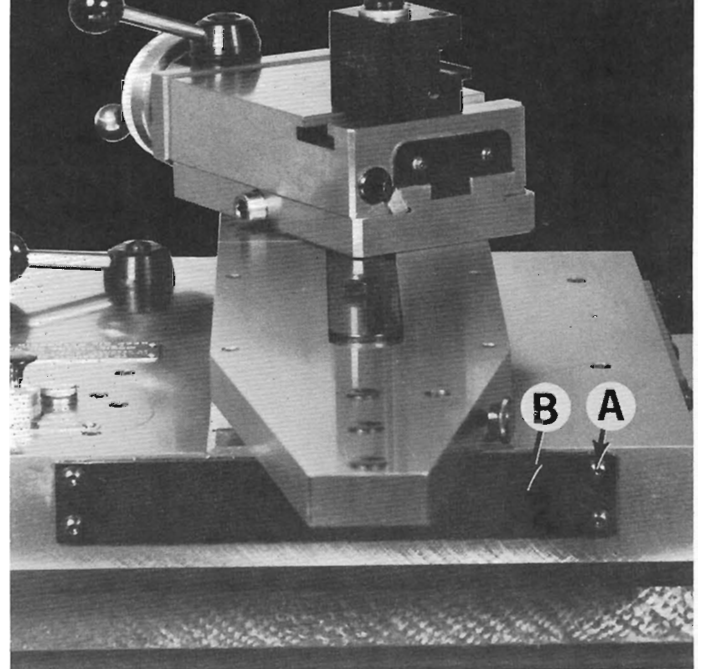

Figure 104 — Junction Block Cover
1. **TO GAIN ACCESS TO THE JUNCTION BLOCK,** remove four screws "A", Figure 104, and cover "B".